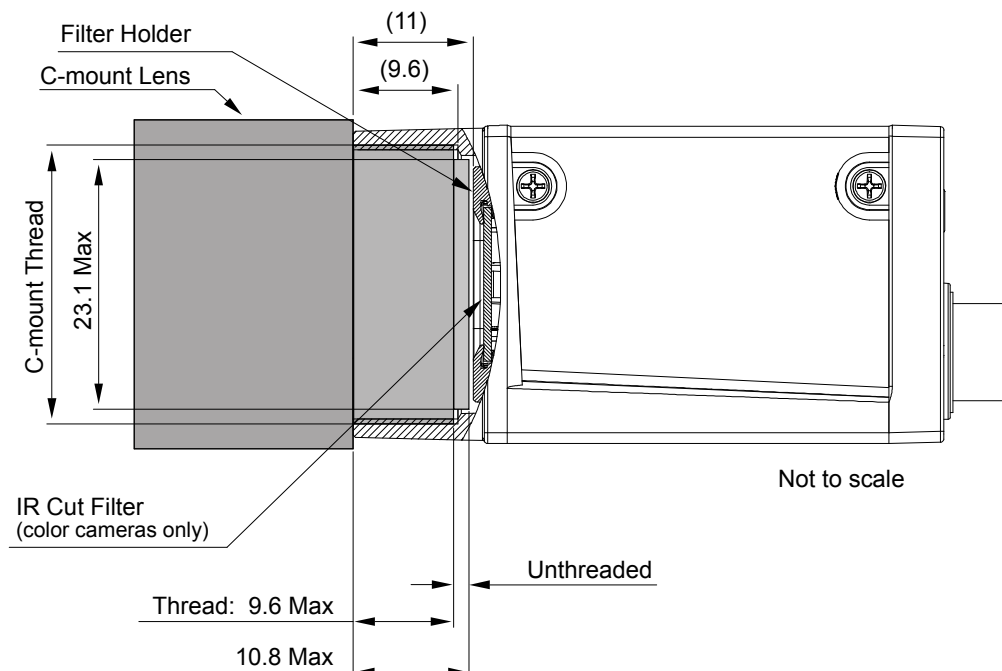

Fig. 34: Maximum Lens Thread Length (Dimensions in mm) for Cameras with the C-mount Lens Adapter
- Camera with C-mount lens adapter (see Figure 34):